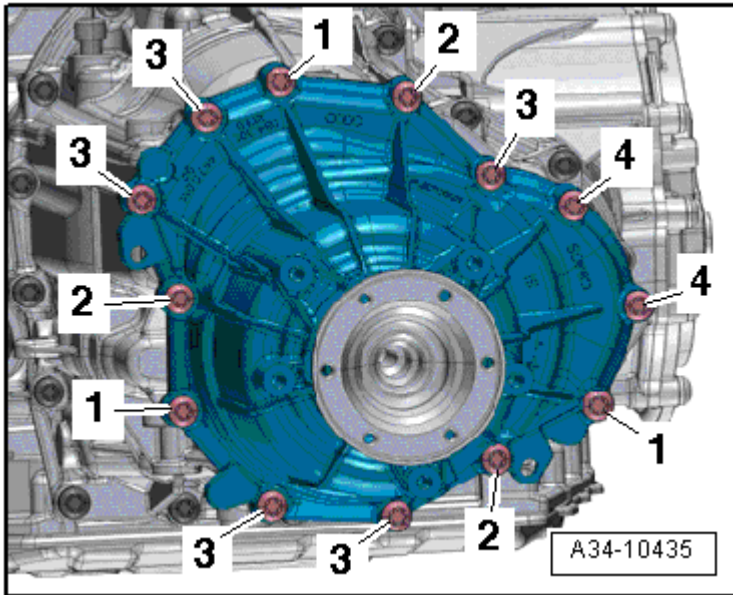

Fig. 6: Tightening Specification And Sequence, Center Differential Housing - Attached Driveshaft
- Tightening specification and sequence, refer to **Fig. 6**